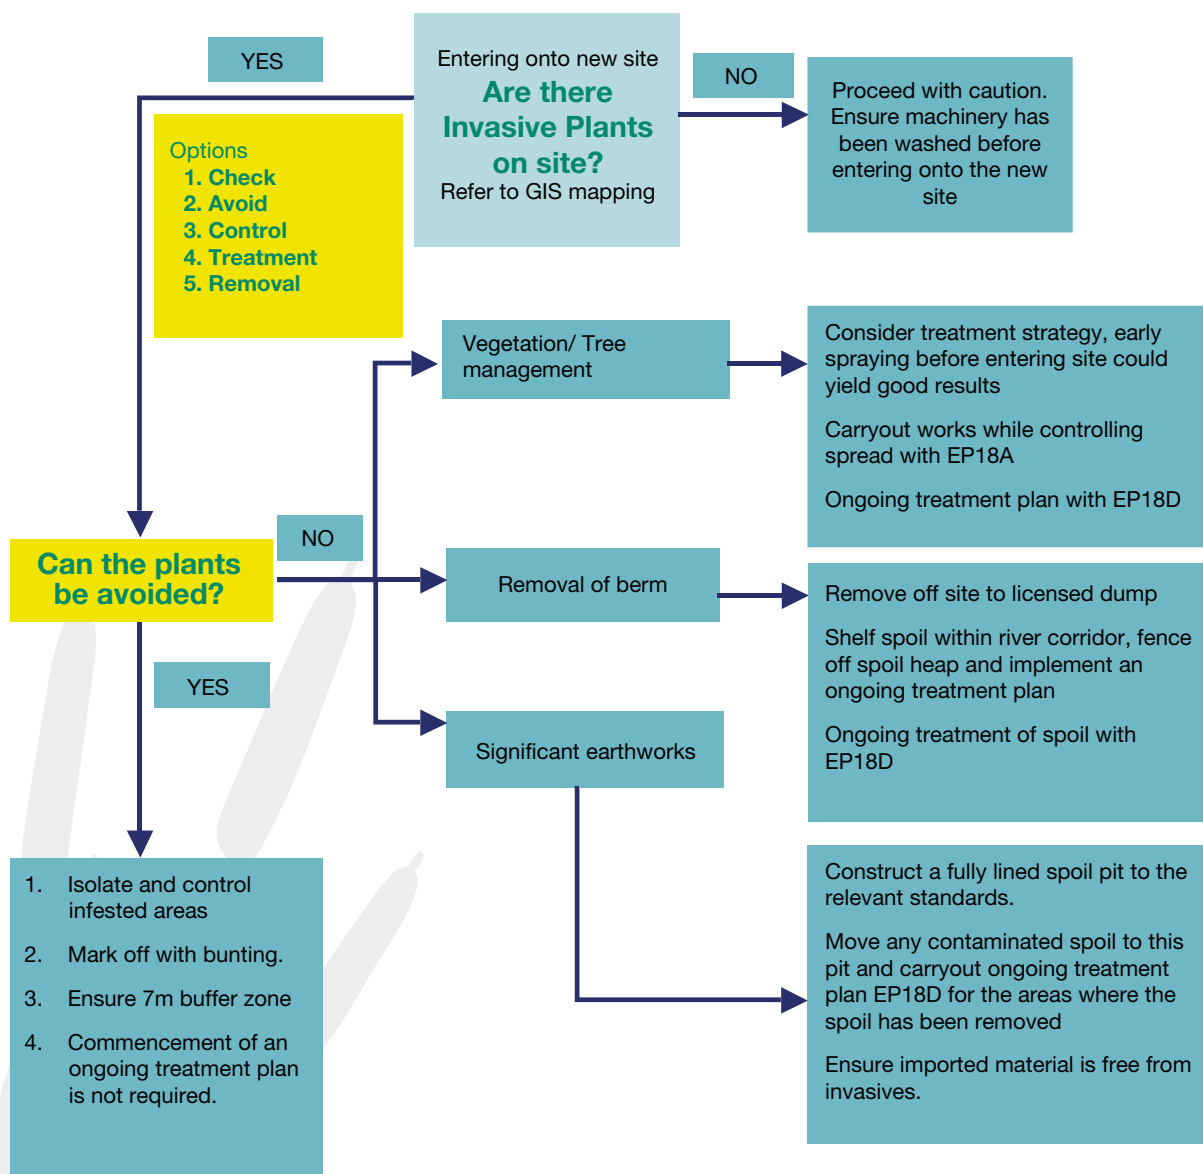

Fig 18D.1
4. Refer to the Fig 18D.1 showing the minimal required P.P.E.